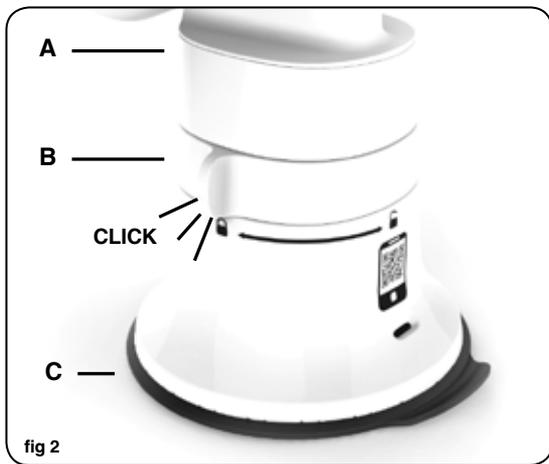

fig 2
3. To bond the foot to the countertop and lock the top part to the suction foot, turn the ring (B) to its lock position , until a click occurs. Ensure all parts are locked together (fig. 2).